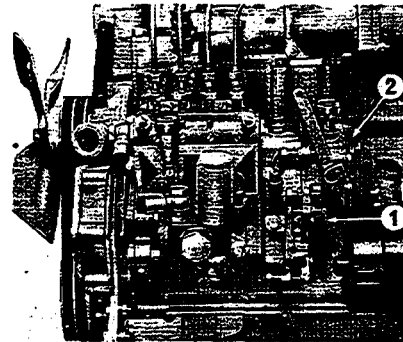

Fig. 3-31 RUV Governor
- 4) In any case whatever, don't tamper with the seals on (Fig. 3-31).